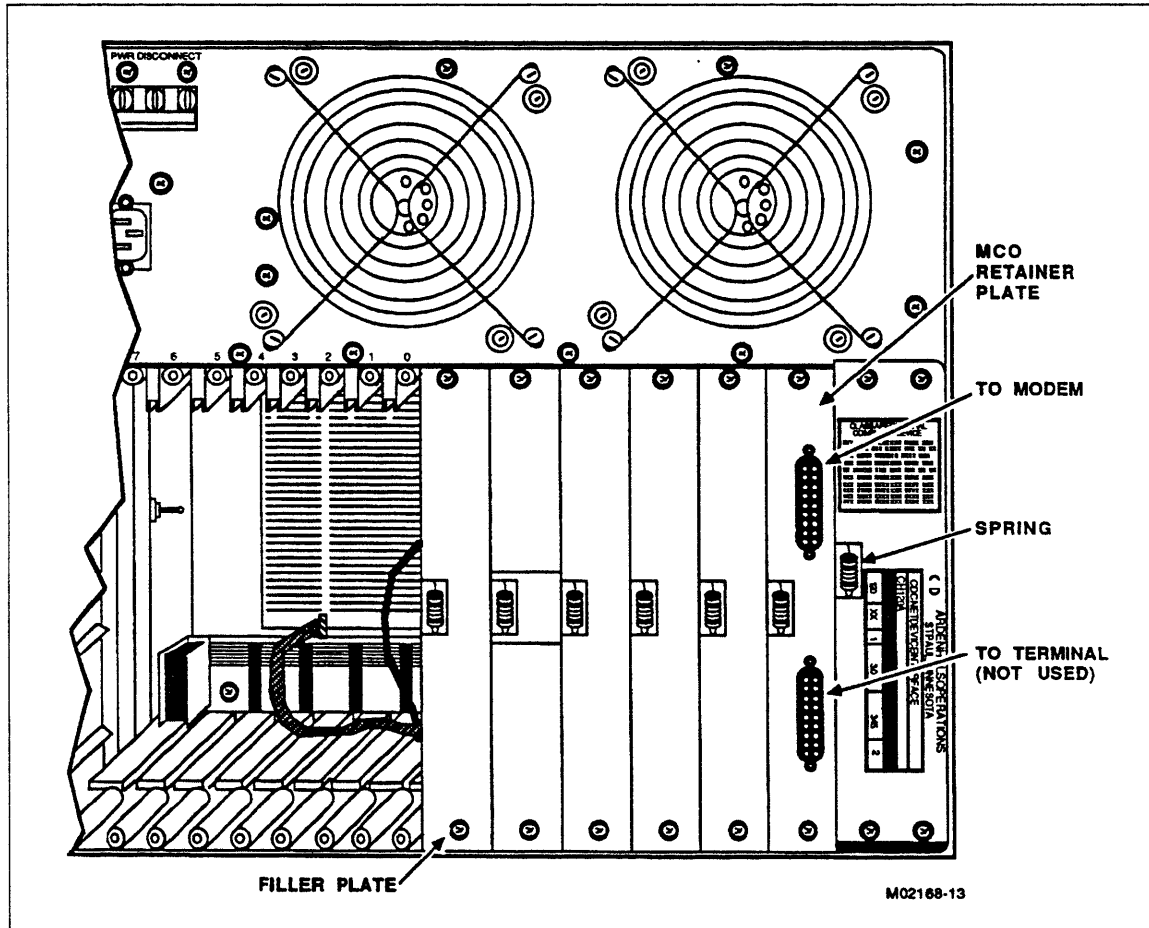

Figure 3-14. Installed MCO
6. Replace double-width filler plate using four screws removed in step 2. Figure 3-14 shows the MCO installed.